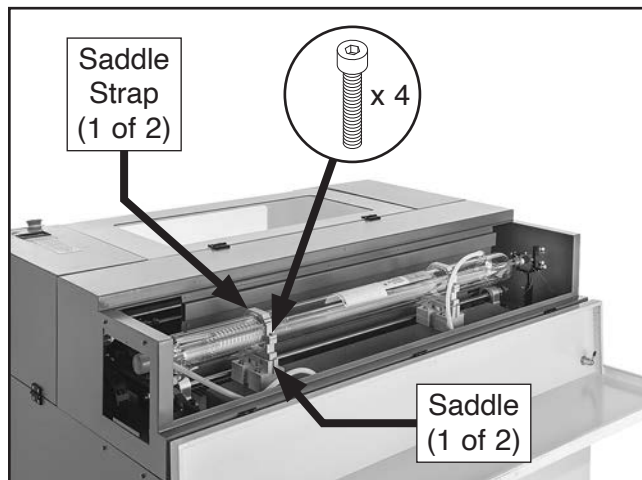

Figure 95. Laser tube saddle components (G0873 shown).
10. Remove saddle-strap cap screws in an alternating pattern, and then remove saddle straps (see **Figure 95**).